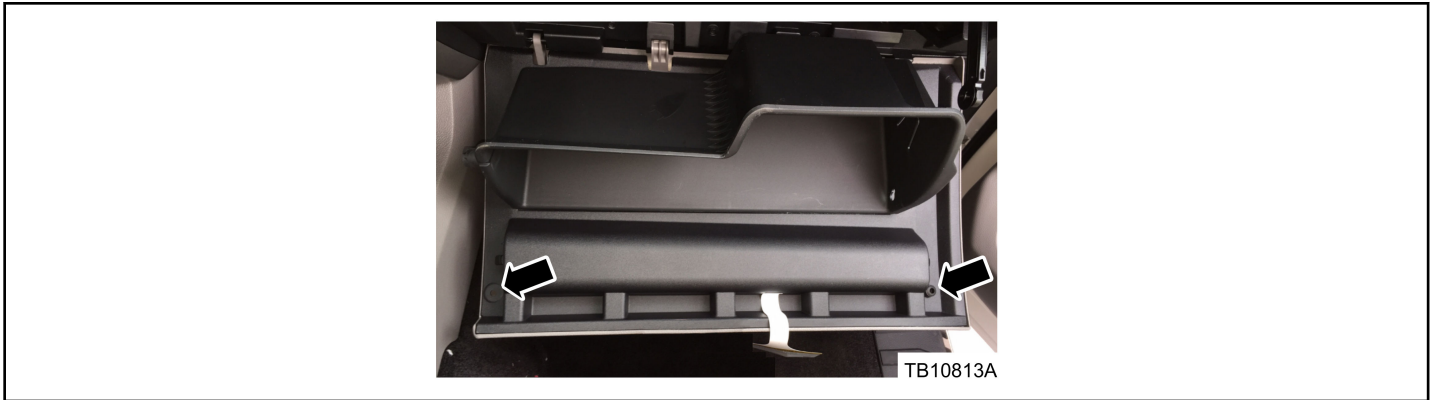

Figure 4 - Article 16-0005
8. Remove by hand the 2 (two) rubber bumpers from the glove compartment. (Figure 4)